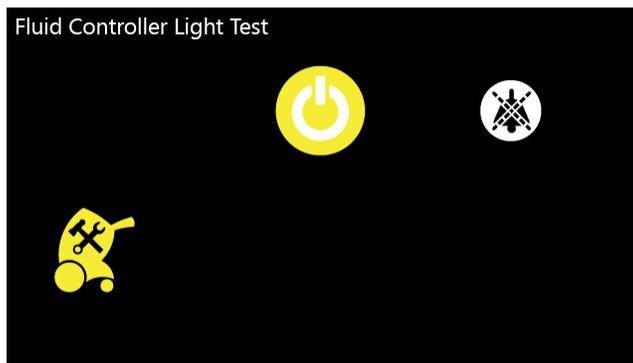

Figure 52 – Fluid indicator test
- c. Verify the fluid controller light test illuminates, mirroring the display in Figure 52.